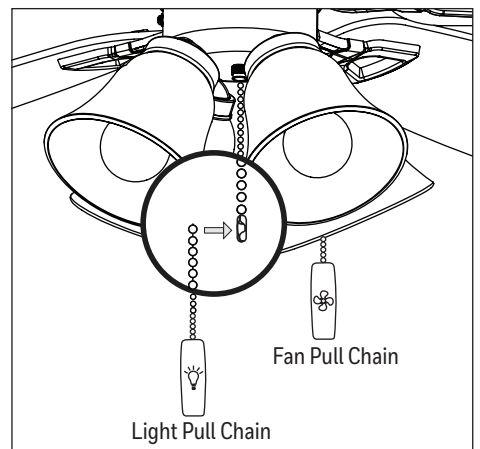

Figure 2.15
15. Attach the pull chain extensions to the pull chains (Figure 2.15).